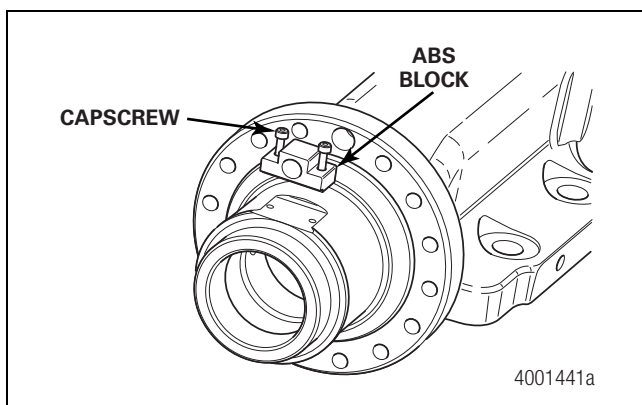

Figure 3.16
7. If required, remove the ABS block mounting capscrews. Figure 3.16.